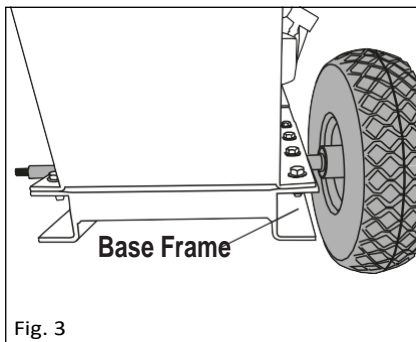

Fig. 3
- Slide the axle through the hole in the base frame (9) and out the other side (fig. 3).
**Note:** The circlip on the axle (16) will prevent the wheel (12) touching the base frame (9).